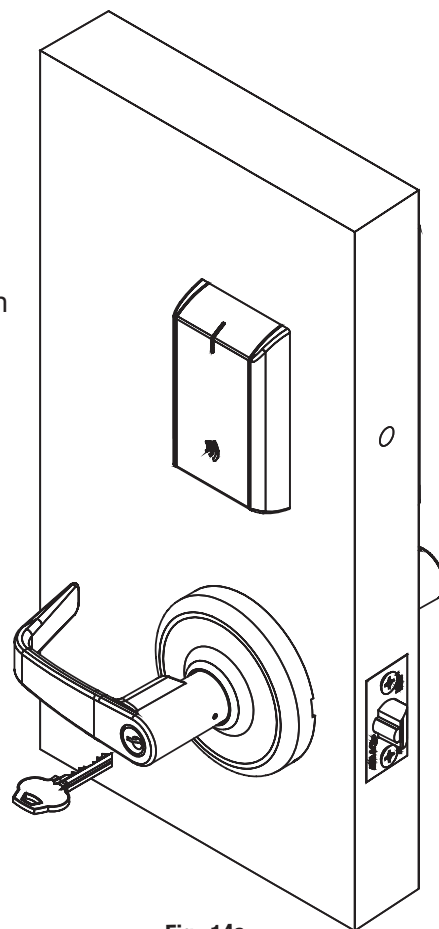

Fig. 14a
- Insert key into cylinder and rotate (Fig. 14a).